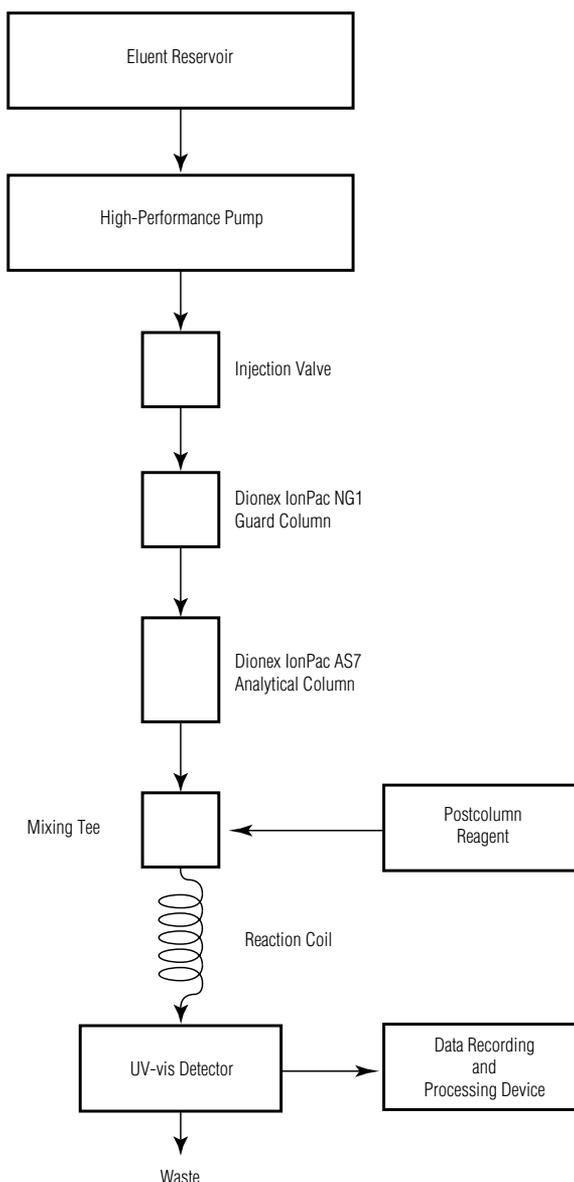

Figure 3. System flow diagram.
The reaction consists of the simultaneous oxidation of diphenylcarbazide to diphenylcarbazone, reduction of Cr(VI) to Cr(III), and the chelation of Cr(III) by diphenylcarbazone. The actual structure of the chelate is not known, but it is detected by visible absorbance using a photometric detector at 520 to 530 nm. A diagram of the system flow path is shown in Figure 3.